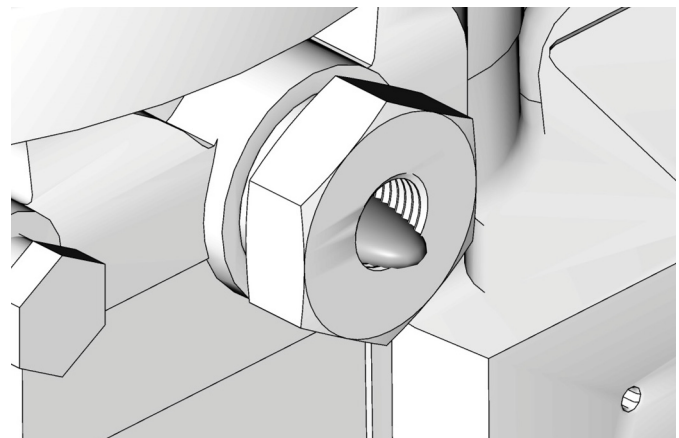

FIG. 12
2. Only run pump until air is no longer dispensed with the lubricant coming out of element fitting (FIG. 12).